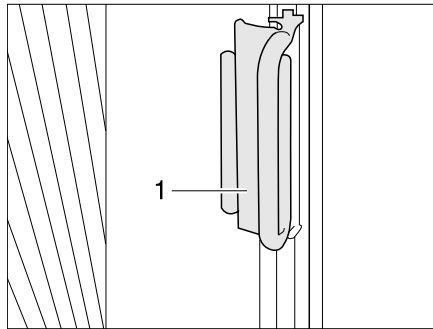

Fig. 15 Handle of the Roman shade of the windscreen
- Use the handles (Fig. 15,1) to slide the Roman shades for the windscreen under covers at the A column and fasten the handle on the cover. The Roman shade is secured.